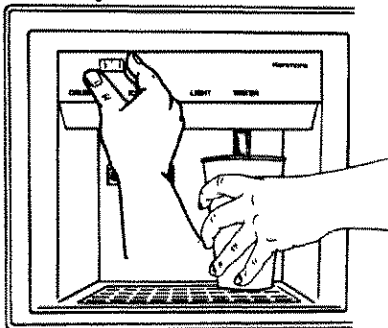

Figure 33
- Select CUBE or CRUSHED mode by sliding lever on front dispenser panel to chosen setting. See Figure 33.